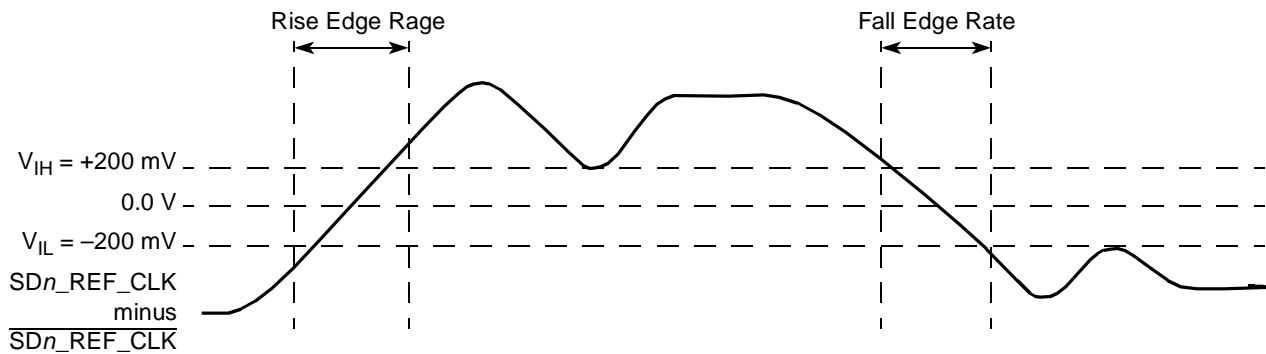

Figure 49. Differential Measurement Points for Rise and Fall Time
3. Measured from -200 mV to +200 mV on the differential waveform (derived from SDn_REF_CLK minus SDn_REF_CLK). The signal must be monotonic through the measurement region for rise and fall time. The 400 mV measurement window is centered on the differential zero crossing. See Figure 49.